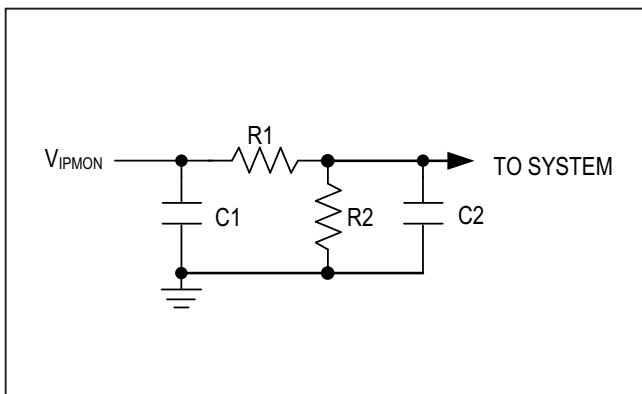

Figure 2. External RC Network to Adjust V_{IPMON}
Adding a resistive voltage divider at the IPMON output (Figure 2) allows the overall V_{IPMON} gain (G) to be adjusted per the following equation:
Figure 2 shows an ORing application where a resistive divider connected from IN1 at the PC pin controls the turn-on of the ORing MOSFET, MD2, in the IN2 supply path. When the IN1 supply voltage falls below 4.5V, it turns on the ORing MOSFET, MD2, causing the ORing output to be switched from the main 5.0V supply at IN1 to the auxiliary 5.0V supply at IN2. This configuration permits the load to be supplied from a lower IN1 supply as compared to IN2 until IN1 falls below the MD2 turn-on threshold. The threshold value used should not allow the IN1 supply to be operated at more than one diode voltage below IN2. Otherwise, MD2 conducts through the MOSFET's body diode. The resistive divider connected from CSP at the ON pin provides the undervoltage threshold of 2.6V for the ORing output supply.